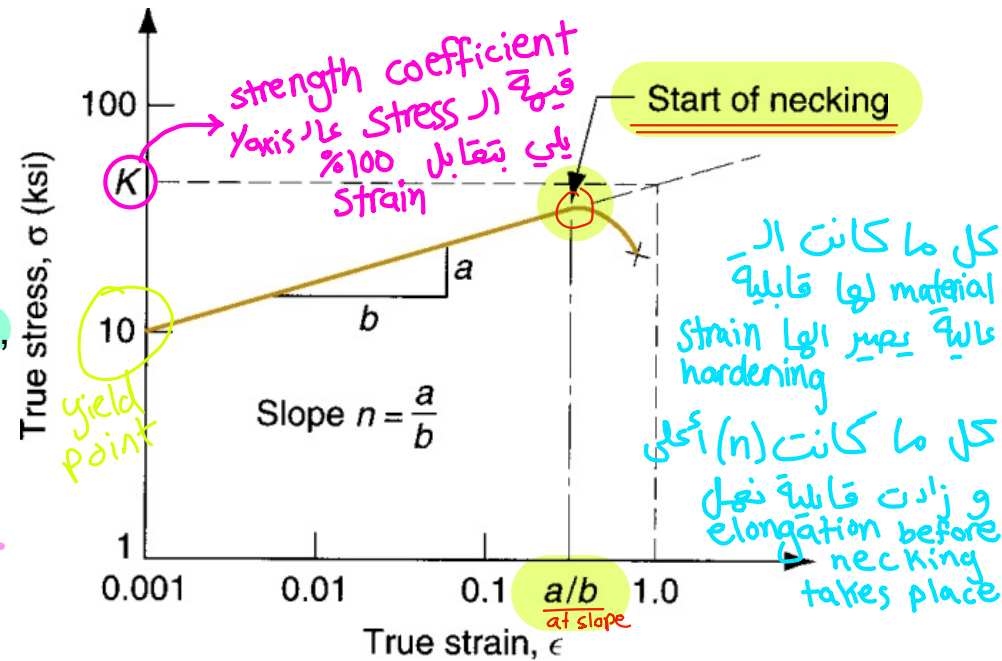

Fig. 3-6: true stress-strain curve plotted on a log-log scale.
- With plotting the true stress and true strain of the plastic region on a **log-log scale**, the result would be a linear relationship as in fig. 3-6, and the relation between true stress and true strain would then be: